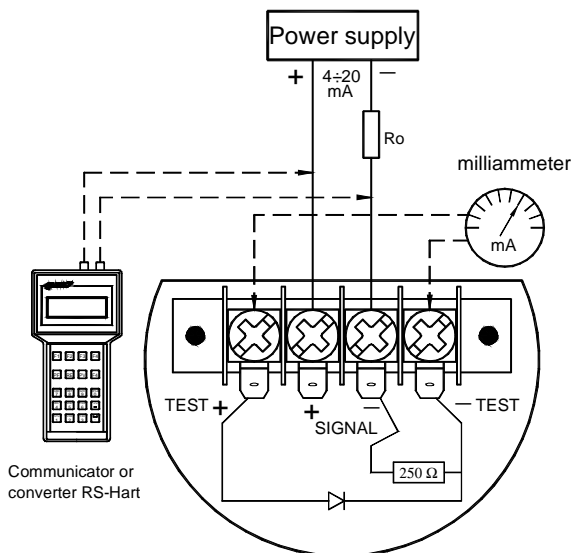

Fig. 2a
1. If the resistance seen from the transmitter in the direction of the line is  $R_o > 250\Omega$ , we can communicate with the transmitter via a connection to line "Signal +" and "Signal -", as shown on Fig 2a. ( $R_o$  = line resistance + load)
2. If  $R_o < 250\Omega$ , there will be no communication and R in the system should be increased to at least  $250\Omega$ , as shown on Fig. 2a.